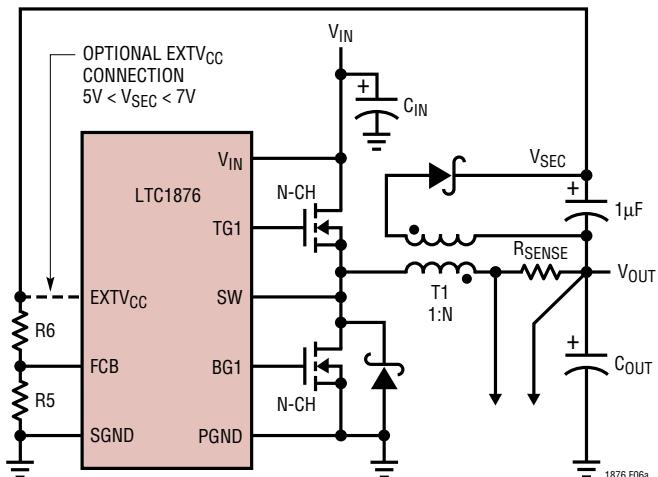
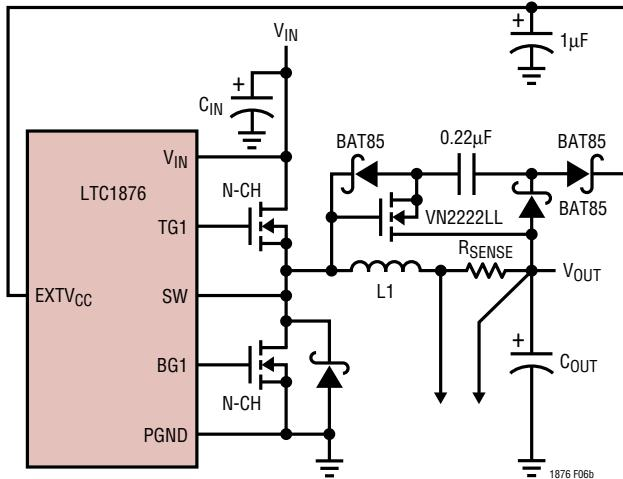

Figure 6a. Secondary Output Loop and  $EXTV_{CC}$  Connection
Figure 6b. Capacitive Charge Pump for EXTVcc
4.  $EXTV_{CC}$  Connected to an Output-Derived Boost Network. For 3.3V and other low voltage regulators, efficiency gains can still be realized by connecting  $EXTV_{CC}$  to an output-derived voltage that has been boosted to greater than 4.7V. This can be done with either the inductive boost winding as shown in Figure 6a or the capacitive charge pump shown in Figure 6b. The charge pump has the advantage of simple magnetics.
The secondary output voltage  $V_{SEC}$  is normally set as shown in Figure 6a by the turns ratio  $N$  of the transformer: